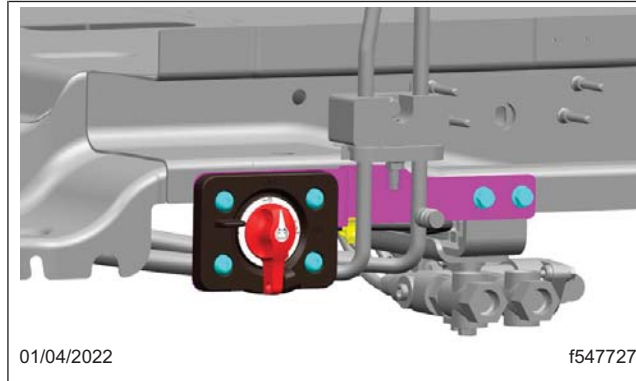
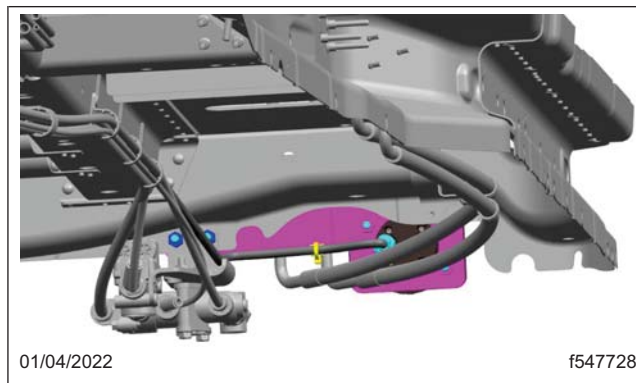

Fig. 24, BOC Switch
Fig. 25, Harness Connected to Battery Cutoff Switch
2. Install the battery cutoff switch to the bracket, as shown in **Fig. 24**, using four screws.
3. Connect the harness to the backside of the switch as shown in Fig. 25. An exploded view of the BOC switch location is shown in Fig. 24.